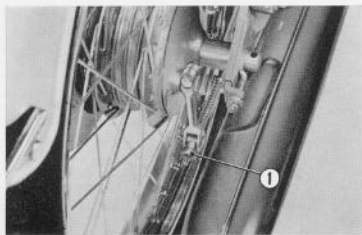

Fig. 5.32 Adjusting rear brake
b. Adjustment is made by the adjuster nut. ① (Fig. 5.32)